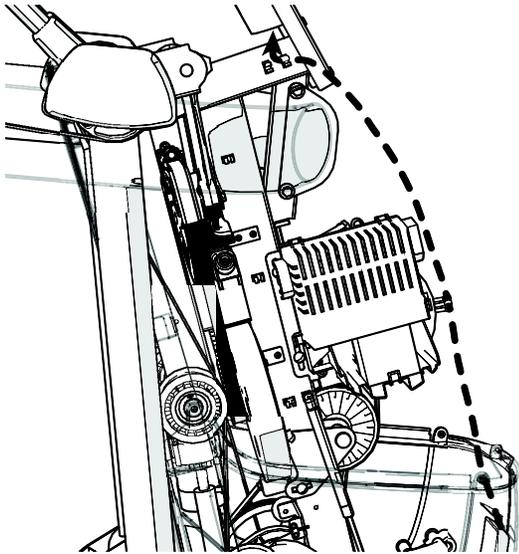

Figure 13
2. Route the cables through the cable clips next to the front flywheel, through the topmost cable clip on the main frame, and up to the center support (see Figure 13).